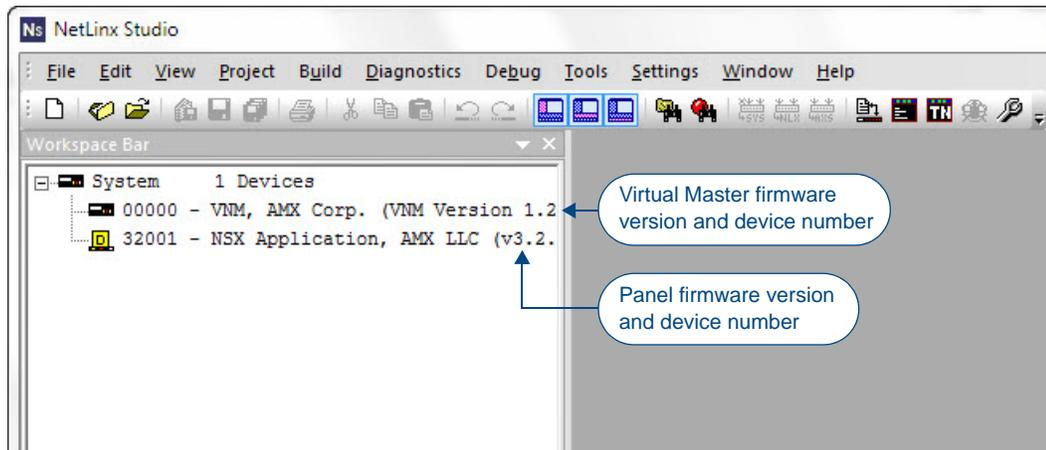

FIG. 32 NetLinx Workspace window (showing panel connection via a Virtual NetLinx Master)
1. After the *Communication Verification* dialog window verifies active communication between the Virtual Master and the panel, click the **Online Tree** tab in the Workspace window (FIG. 32) to view the devices on the Virtual System. *The default System value is 1.*
2. Right-click on the System entry (FIG. 32) and select **Refresh System** to re-populate the list. Verify the panel appears in the **Online Tree** tab of the Workspace window.